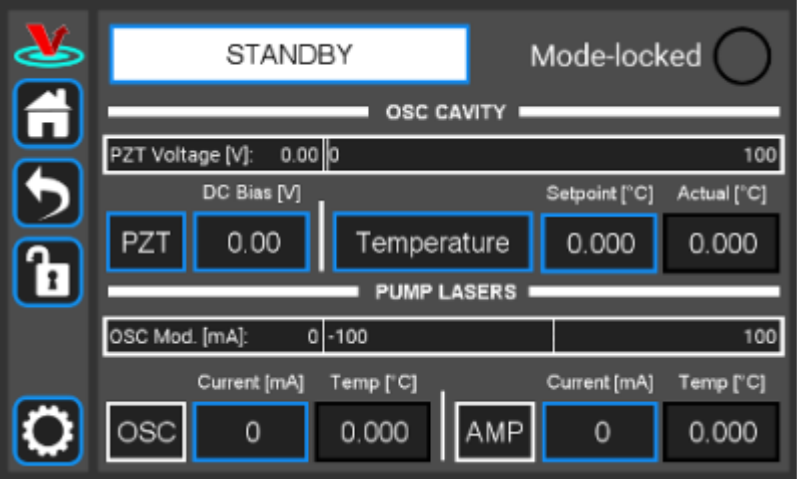
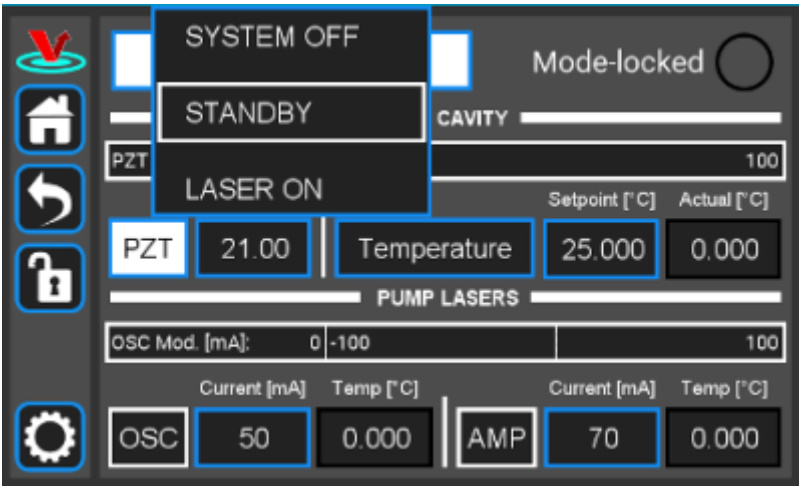
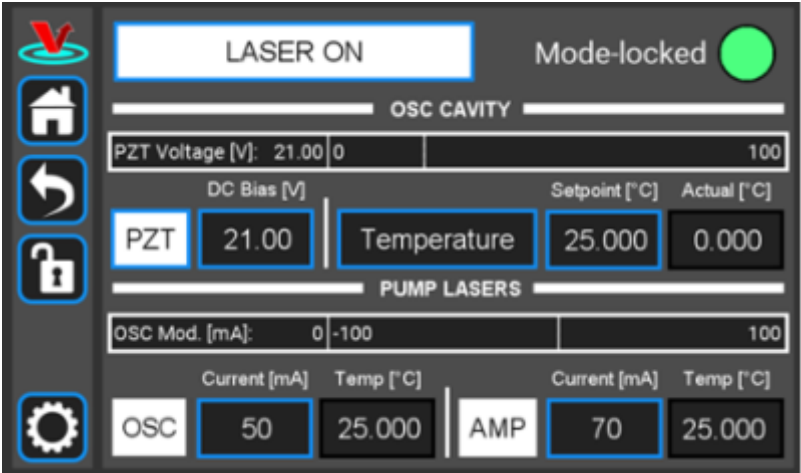

Fig. 5: The FFC-100 GUI: in Standby
Fig. 6: The FFC-100 GUI: Standby to System On
Fig. 7: System On
2. Once the temperature servos have stabilized and “Standby” has stopped blinking, touch the “Standby” drop-down menu (figure 5) and select “Laser On” (figure 6). The FFC should commence lasing and the Mode-locked indicator should turn green (figure 7).